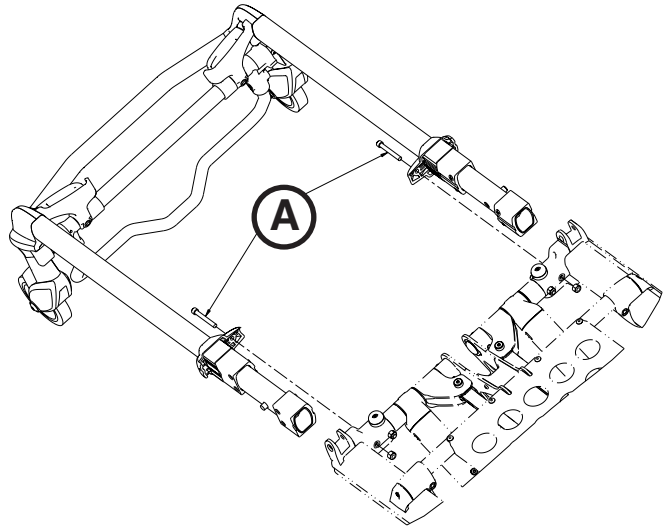

Figure 66
2. Using a 7/16" combination wrench and a 3/16" hex wrench, remove the two screws (A) that secure the cap bearings to the base litter interface bracket (one on each side) (Figure 66).